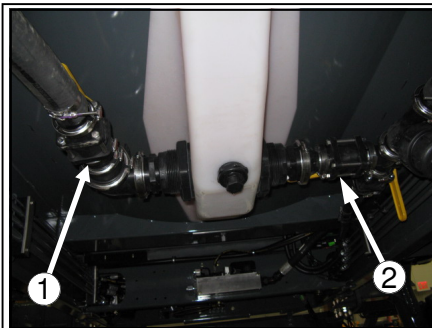

FIG 4.29-2
SOLUTION FILL VALVE– The solution tank valve (fig. 4.29-2, item 1) is a ball type valve that has to be opened and closed manually. It allows solution into the tank when it is open. The valve needs to be closed once filling is complete. The valve is controlled from inside the cab with the TANK VALVE switch (fig. 4.29-3) located on the right hand console.
SOLUTION PUMP VALVE– The solution pump valve (fig. 4.29-2, item 2) is a ball type valve that has to be turned on and off manually. This valve is to allow the fluid from the solution tank to flow to the solution pump.